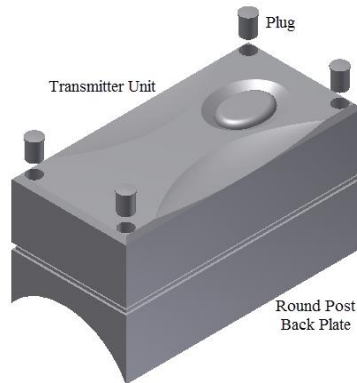

Figure 13
2. Unscrew the four screws holding the flat back plate to the transmitter unit using the screw driver provided. Re-assemble the transmitter unit to the round post back plate (figure 13).